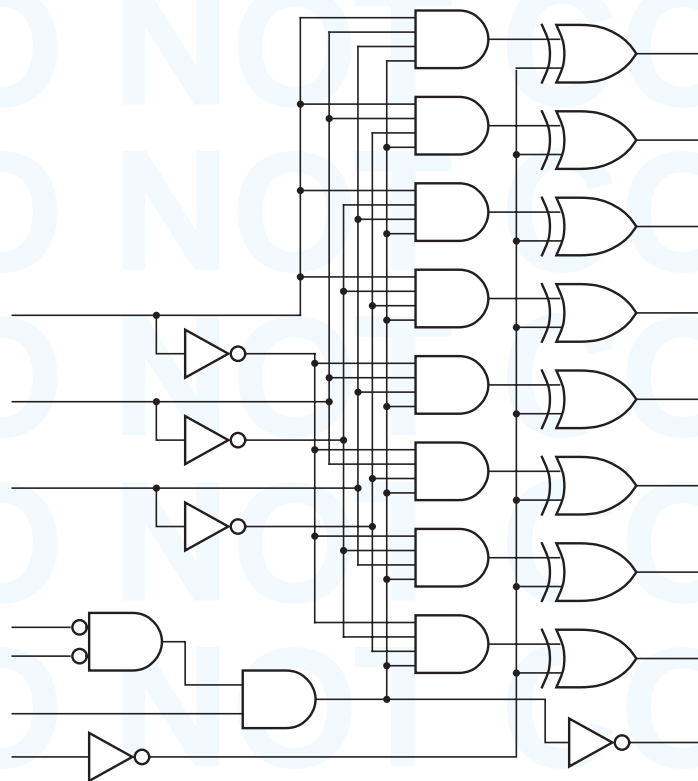

Figure X5.42
- 5.42 A famous logic designer decided to quit teaching and make a fortune by licensing the circuit design shown in Figure X5.42.